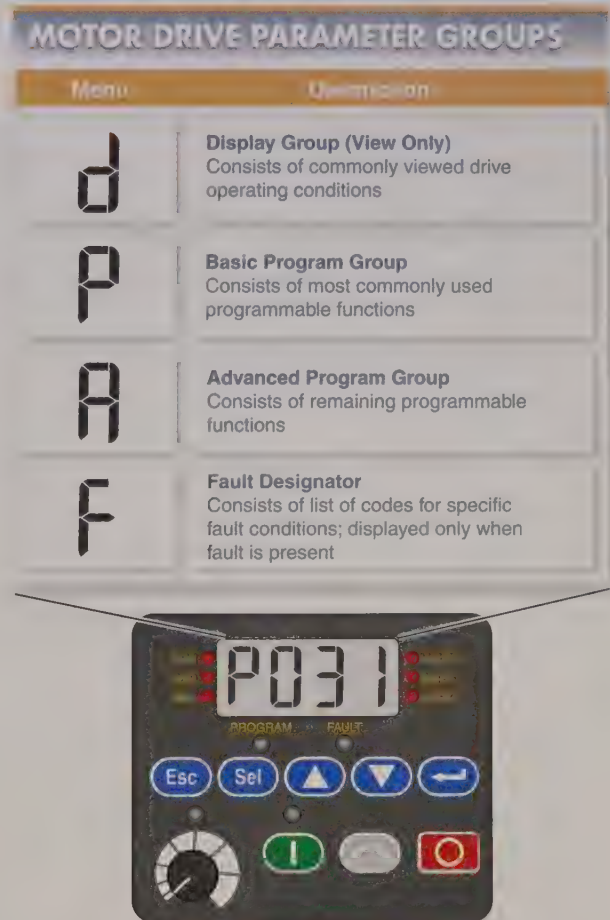

Figure 26-6. Motor drive parameter groups may consist of display, basic programming, advanced programming, and fault codes.
Parameter menu formatting varies based on manufacturer. Some manufacturers list parameters in numerical order and other manufacturers arrange parameters by file and group based on function. Some assign a number to a parameter in addition to a file and group designation. For example, a drive manufacturer may arrange groups of parameters into files with a letter such as d, P, A, and F. The letter designates the parameter group as display (d), basic programming (P), and advanced programming (A). In addition, the letter F designates the group of fault codes (F). See Figure 26-6.